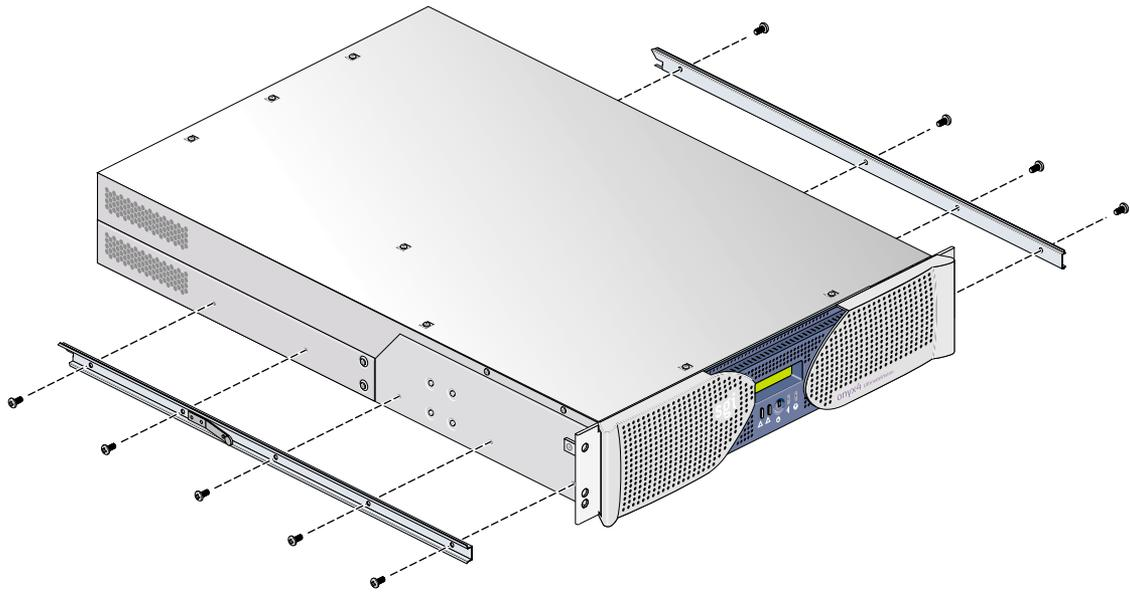

Figure C-3 Attaching Chassis Rails to the Brick
2. Using four 10-24 x 1/4-inch screws, attach one of the chassis rails to the right side of the brick. Ensure that the rail is installed in the correct direction (see Figure C-3).